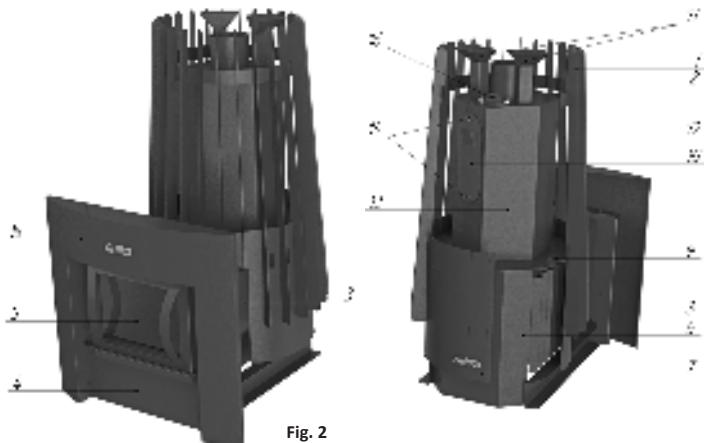
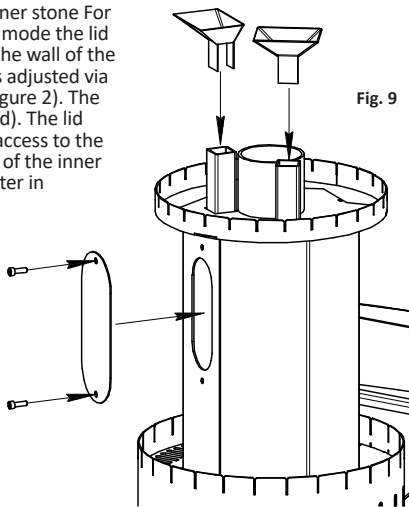

Fig. 2
Fig. 9
Overall view and location of the heater main elements are shown in Figure 2. The firebox of Cometa heater (6) is fabricated of high duty rolled steel. Use of such steel increases the heater's durability and service life taking into account the firebox wall thickness of 3 mm, while the most critical elements are made of 5 mm thick steel.
The effective design for heating up the stones and the steam room is due to the arrangement of heat exchange process not only via the surface of the stone heaters, but also by means of air convection between the heater firebox, radiator (8), and protective shield (7) through convection holes (Figure 9). Also, the protective shield screens high-level infrared radiation coming from the firebox walls as the heater is getting hot.
Installation of the lid shall be carried out after loading stones into the inner stone For heater operation in fine steam mode the lid shall be installed tight against the wall of the stone heater. The lid position is adjusted via mounting screws (item 14 in Figure 2). The screws have hex holes (included). The lid shall be removed, if you need access to the stones or during the operation of the inner compartment of the stone heater in traditional steam mode. Place of installation is shown in Figure 9.
Places of installation and installation method for the funnels are shown in Figure 9.